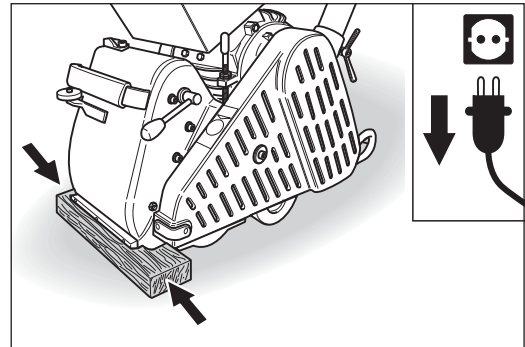

Fig. 44 Transport or storage of the machine on a flat piece of wood.
- **During transport or storage, place a flat piece of wood between the floor surface and machine housing (fig. 44)! This prevents the housing from slipping and stops the drum being in direct contact with the floor!**